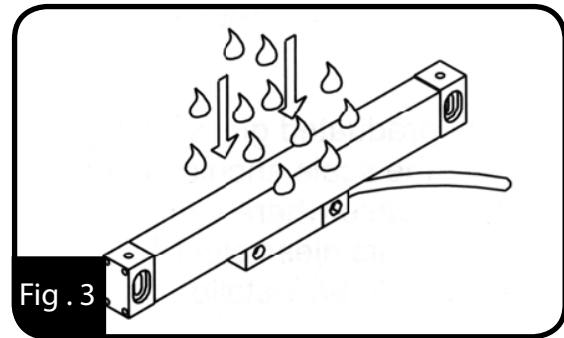

Fig. 3
- The opening of the scale must **not** be installed as to be directly exposed to swarf, oil, water, dust or other foreign products. (Fig. 3)